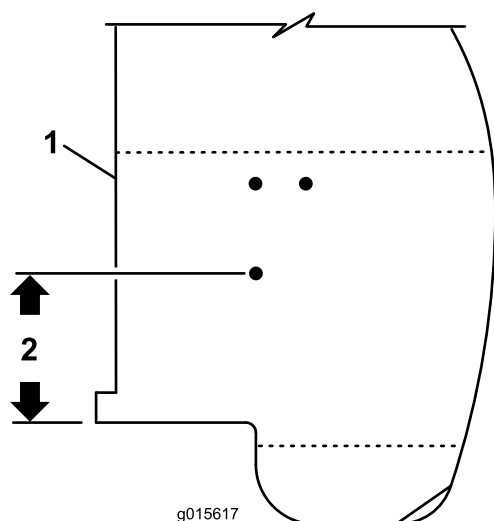

Figure 1
- If the rear hole is located 9.5 cm (3-3/4 inches) from the edge of the fender as shown in Figure 1, proceed to step 4.